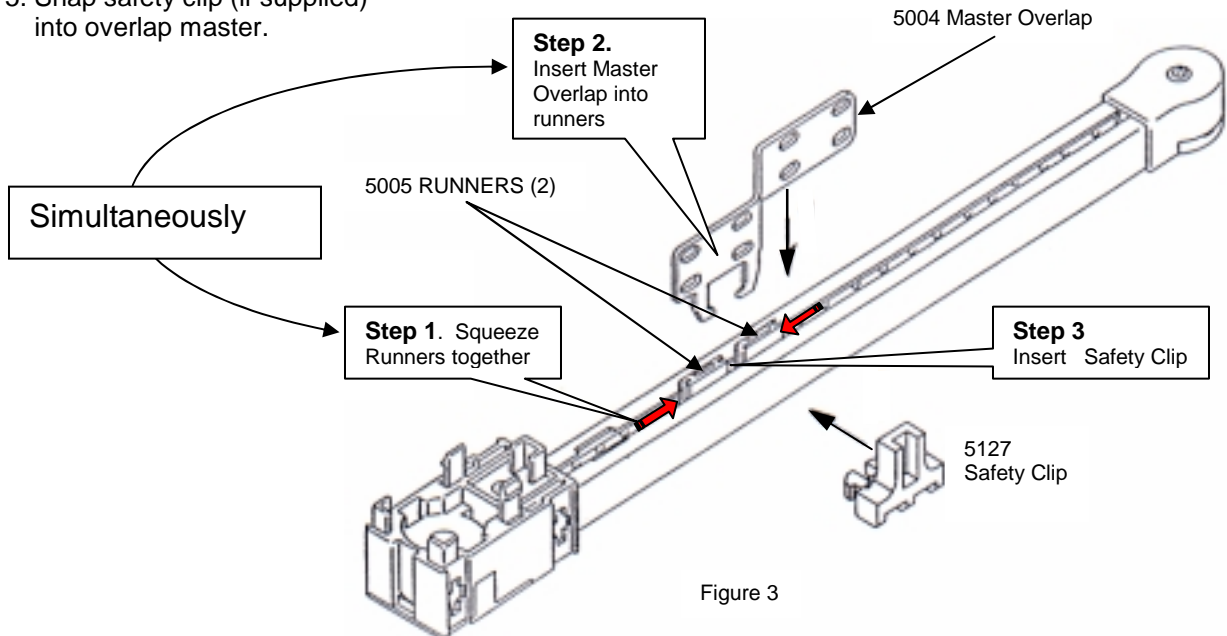

Figure 3
(This step may require squeezing the two 5005 runners towards each other, See Figure 3, and inserting the connecting bridge (splice) at the same time...)
4. Assembly of Overlap Master (See Figure 3) Simultaneously, squeeze runners together and insert Overlap Master into runners.